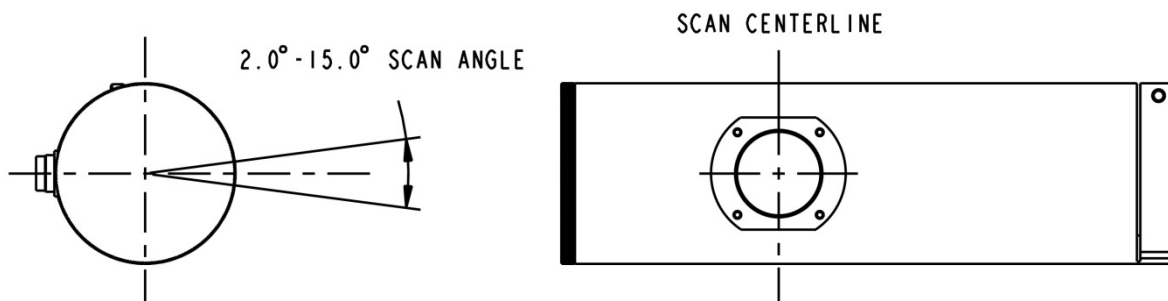

Figure 5: Scanning direction and scan angle of the SpotScan.
4. After setting up the SpotScan power supply (see p. 11), orient SpotScan in its mounting so that the desired line of temperature measurement can be formed on the target object (see Figure 5, below).